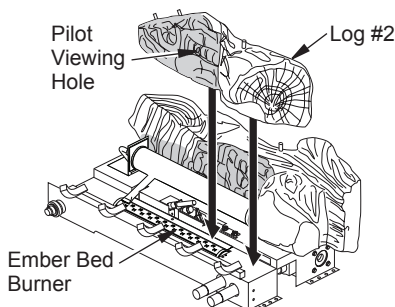

Figure 24 - Installing Log #2
2. Place right front log (#2) on base to right of ember bed burner as shown Figure 24. The front of log #2 sits behind the ember bed burner. This log has a hole that is to be used for viewing the pilot (see Figure 24).
- With control knob pressed in, press and release electronic ignitor button. This will light pilot. Hold in ignitor button until pilot lights. See Figure 24, page 18, for pilot viewing hole location.